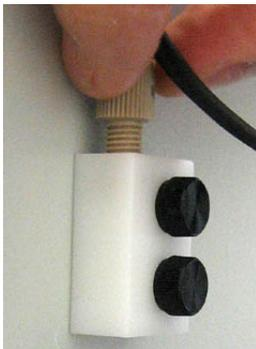

Fig. 30: Removing the rear cable screw
7. Tighten the finger-tight knurled screw that attaches the rear cable to the mounting block (→ Fig. 30, page 68).
7. Loosen the finger-tight knurled screw that attaches the rear cable to the mounting block on the AFC-3000 rear panel (→ Fig. 30).